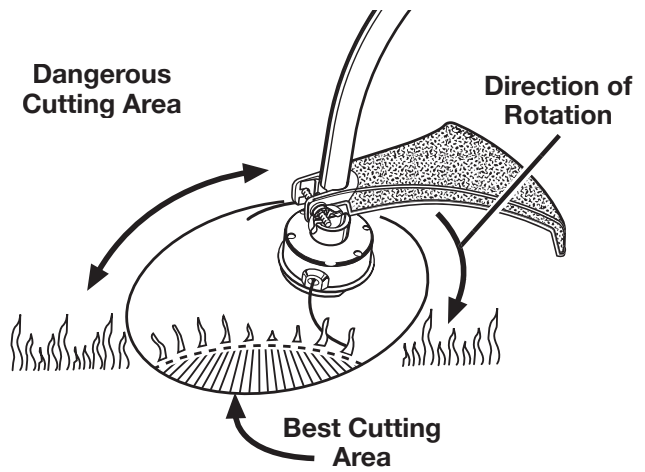

Figure 18
See Figures 18 and 19.
3. The curved shaft trimmer cuts when passing the unit from right to left. The straight shaft trimmer cuts when passing the unit from left to right. This will avoid throwing debris at the operator. Avoid cutting in the dangerous area shown in figures 18 and 19.